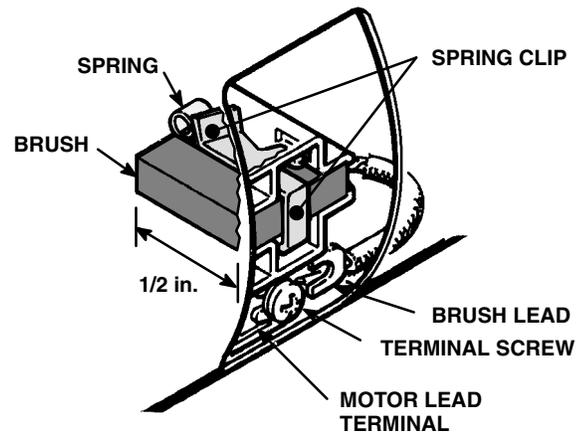

Fig 21-3
**NOTE:** Replace the brushes when they have worn to less than 1/2 in. See Fig 21-3. Note that the brushes wear differently on each side of the motor, so check them both. Brush Repair Kit 220-853 and Spring Clip 110-816 are available.
3. Loosen the brush lead terminal screw. Pull the brush lead away, leaving the motor lead terminal in place. Remove the brush and spring. See Fig 21-3.